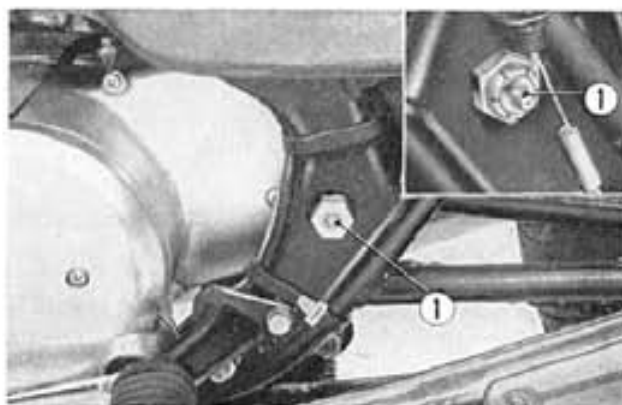

Fig. 19-18 ① Grease nipples
(1) Lubricate grease nipples on the both side of the rear fork pivot shaft (Fig. 19-18) with multi-purpose grease type NLGI No. 2 every 6 months or every 3000 miles (5000 km), whichever occurs first.
(2) Check the following items and if there is any fault, correct before riding.